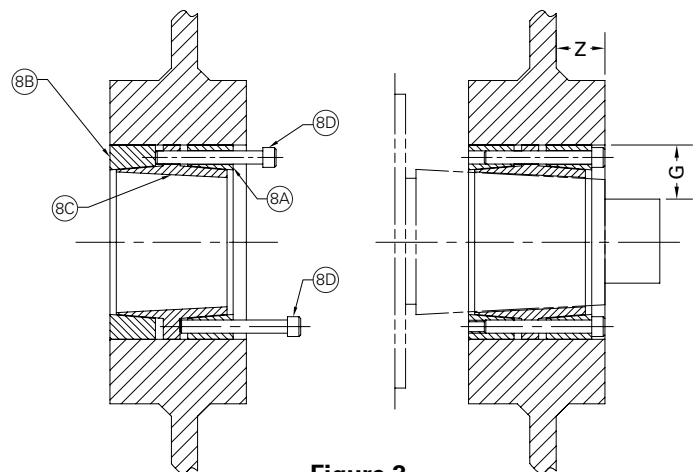

Figure 3
- 2.1.6 Loosen all locking screws (8D) of taper shaft lock (TSL) (8) by a minimum of four turns and transfer at least two of the locking screws (8D) to push-off threads in front clamp collar (8A) to disengage this part from center collar (8C). Similarly, transfer at least two locking screws (8D) to push-off threads in center collar (8C) to disengage this part from rear clamp collar (8B). See Figure 3.